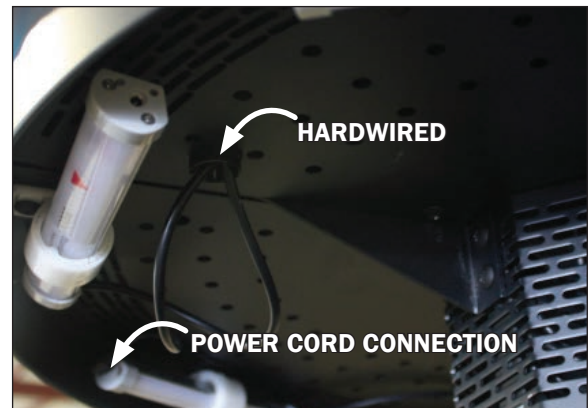

Fig. 12 Hardwired lighting and power cord connection
1. The LED lighting is hardwired so begin by unplugging the power cord at the end of the light (Fig. 12).